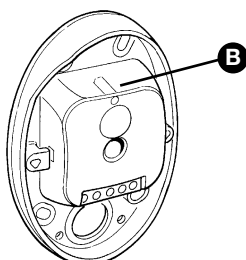

Figure 59
**2** If the system is equipped with the PH0 photocells, make sure that the SAFE LED [B] shown in figure 59 flashes (on both TX and RX). The type of flashing is irrelevant, it depends on other factors; what matters is that it is not always off or always on.